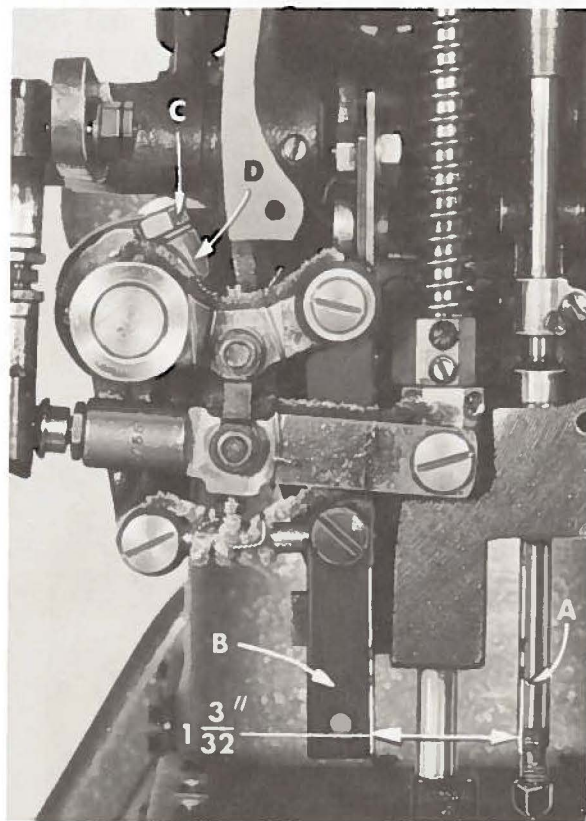

Fig. 8
As the needle bar just begins to rise from the bottom of its stroke, the distance between the rear of the needle bar (A, Fig. 8) and the front of the upper feed bar (B) should be $1 \frac{3}{32}$ inch (Fig. 8). Adjustment can be made by loosening screw (C) in the upper feed driving lever (D) and moving it forward or rearward as required and retighten screw (C).